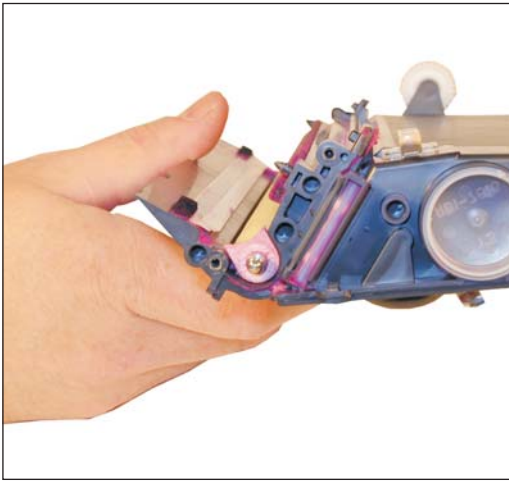

Figure 73
46) Install the feed roller foam seals on both sides of the cartridge. When new replacement seal are available, these should be replaced. See Figure 73